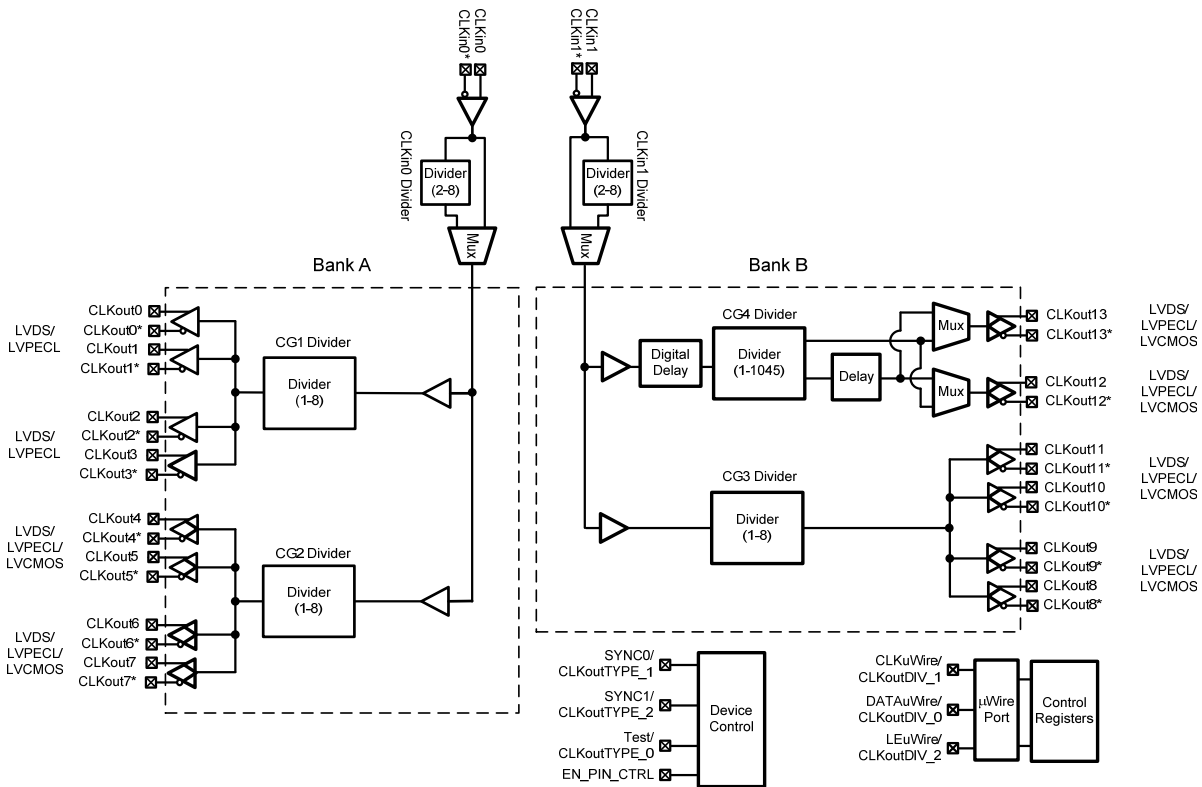

Figure 1 - LMK01801 Block Diagram
The block diagram in Figure 1 illustrates the functional architecture of the LMK01801 clock divider buffer. The LMK01801 is a very low noise solution for clocking systems that require distribution and frequency division of precision clocks. The LMK01801 features extremely low residual noise, frequency division, digital and analog delay adjustments, and fourteen (14) programmable differential outputs: LVPECL, LVDS and LVCMOS (2 outputs per differential output). The LMK01801 features two independent inputs that can be driven differentially or in single-ended mode. The first input drives output Bank A consisting of eight (8) outputs. The second input drives output Bank B consisting of six (6) outputs.